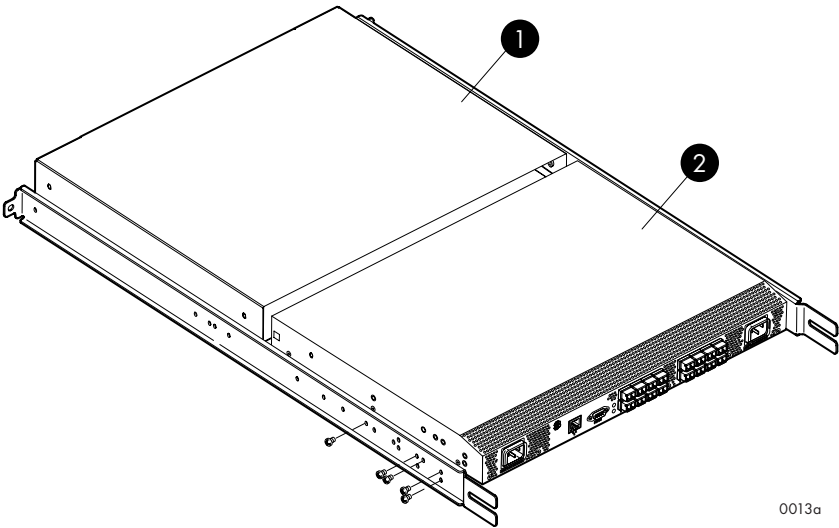

Figure 8: Attaching the Inner Rails on a SAN Switch 2/8V with Plenum
8. Verify that a plenum is installed on the SAN Switch 2/8V, SAN Switch 2/16, SAN Switch 2/16V or SAN Switch 2/16N models only, as shown in Figure 8. The plenum is an overlay that dissipates the heat generated by the switch, and is necessary to prevent overheating.
The components in Figure 8 include: